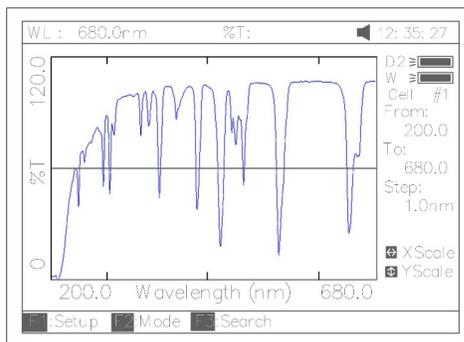

Fig 46
**【ESC/STOP】** to stop scanning. When scan has finished the beeper beeps 3 times (Fig 46).
Note: The report always is printed in Fig 46